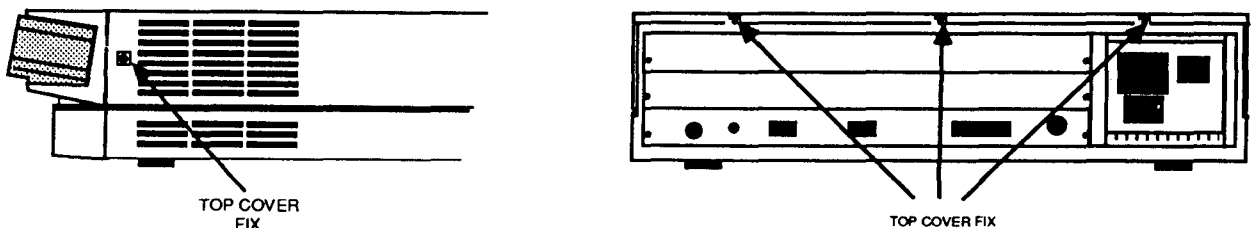

Figure 1: Removing the screws holding the top case.
- 3 Locate the screws holding the cover in place (see Figure 1). Remove the three screws at the top rear of the unit, then remove the single screw located on each side of the unit, towards the front.
- 2 Replace the three screws at the rear of the unit and tighten them up. See Figure 1.
- 3 Finally, replace the two screws, one on each side of the case. See Figure 1.